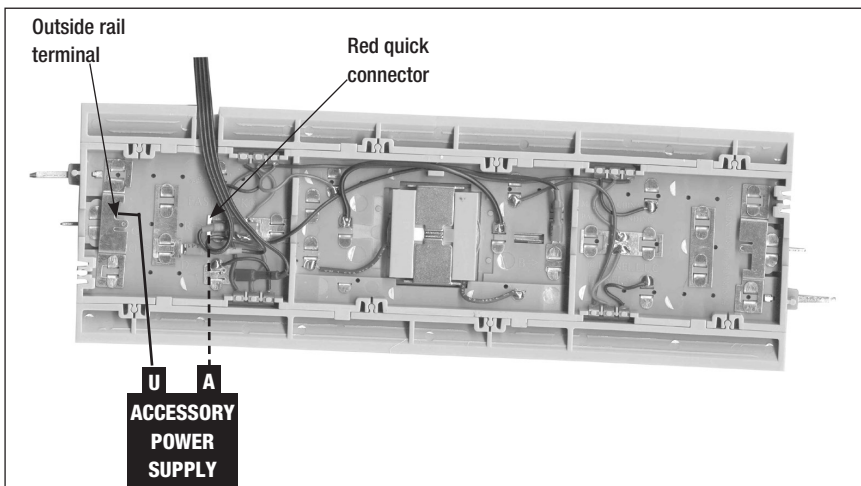

Figure 7. Accessory Power Supply connections
1. Remove the red quick connector from the underside of the track. Cut off the red quick connector and strip the wire about 1/4". This connector is illustrated on the underside of the track in Figure 7.
3. Attach the quick connect on one strand from the Accessory Power Wire (available separately, 6-12053) to the outside rail terminal (labeled in Figure 7) and connect the other end to the Common/Ground/U terminal on the separate accessory power supply.